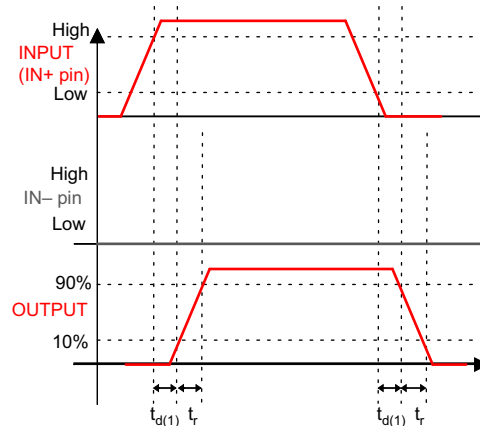
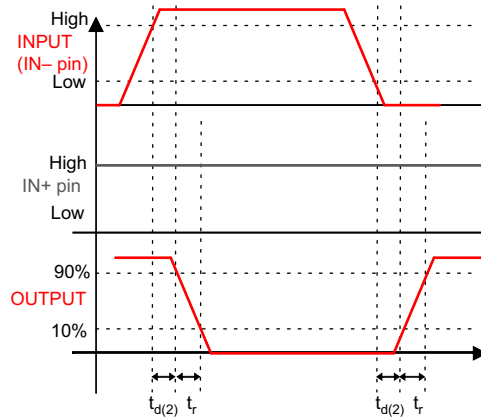

Figure 5-1. Non-Inverting Configuration (PWM Input to IN+ pin (IN– Pin Tied to GND), Output Represents OUTH and OUTL Pins Tied Together in the UCC27511A-Q1)
Figure 5-2. Inverting Configuration (PWM Input to IN- Pin (IN+ Pin Tied to V_{DD}), Output Represents OUTH and OUTL Pins Tied Together in the UCC27511A-Q1)
$V_{DD} = 12\text{ V}$, $T_A = T_J = -40^\circ\text{C}$ to 140°C , $1\text{-}\mu\text{F}$ capacitor from V_{DD} to GND. Currents are positive into, negative out of the specified terminal. See Figure 5-1, Figure 5-2, Figure 5-3, and Figure 5-4
(1) See timing diagrams in Figure 5-1, Figure 5-2, Figure 5-3, and Figure 5-4.